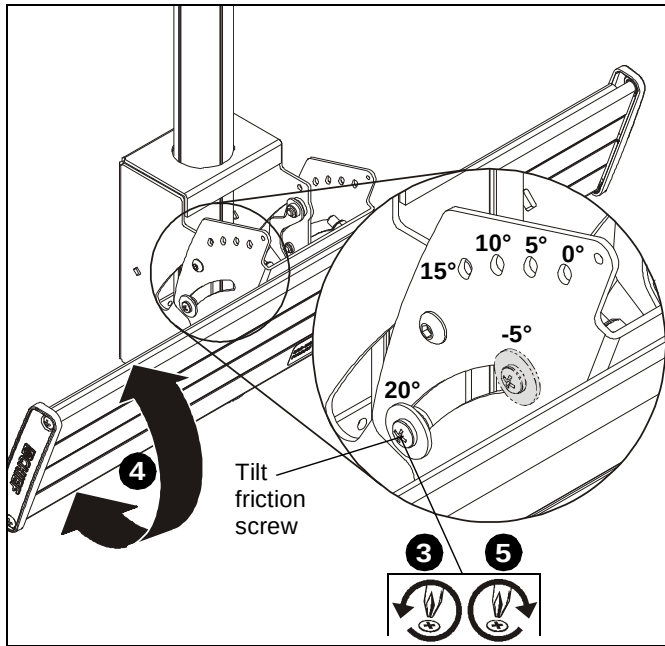

Figure 11
- Loosen two tilt friction screws (located each side). (See Figure 11)
- Adjust tilt as required. Note specific degrees of tilt. (See Figure 11)